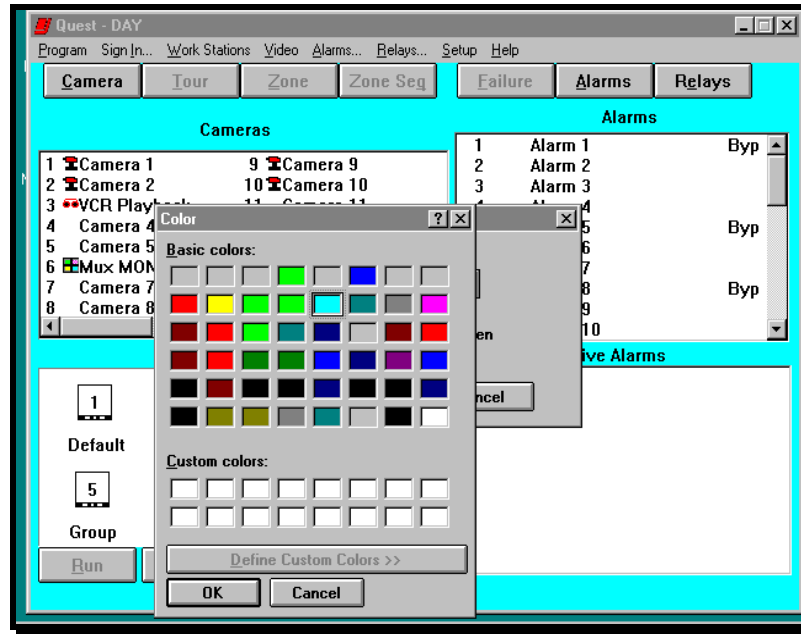

Figure 3-29. Screen Color Configuration Screen
2. To change the screen color, click on **Screen Colors** from the Operator Configuration screen. The screen is illustrated in Figure 3-29.